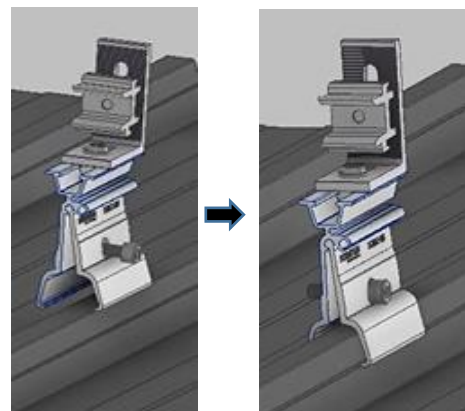

Figure 4.1.3D: Seam clamp positioned and secured on the roofing sheet.
- III. Secure the seam clamps to the roof by tightening the single M8 bolt (14Nm), as shown in Fig 4.1.3D. The single bolt tightening combined with